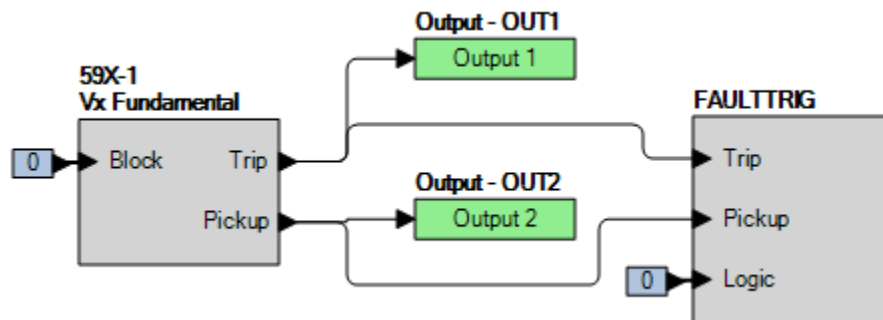

Figure 60-4. BESTlogicPlus Settings (Vx Fundamental Mode)
- Step 2: Use BESTCOMSP*lus* to configure the BESTlogic*Plus* programmable logic shown in Figure 60-4.
- Step 4: Prepare to monitor the 59X-1 function operation. Operation can be verified by monitoring OUT2 (see Figure 60-4).